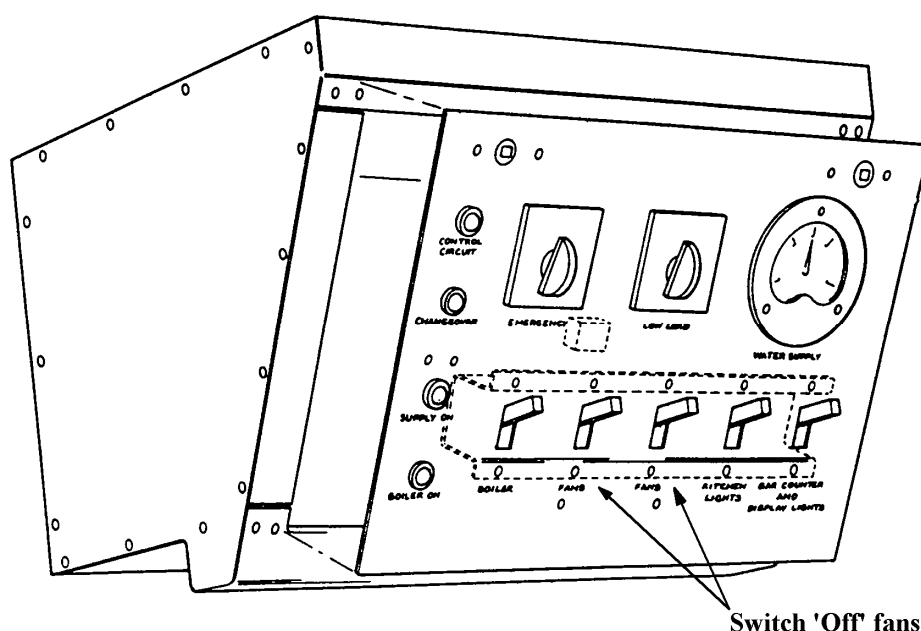

Figure 1: RFM Kitchen Control Panel
1. On RFM and TBRF (408xx series) switch off the fans at the kitchen control panel (see Figure 1).